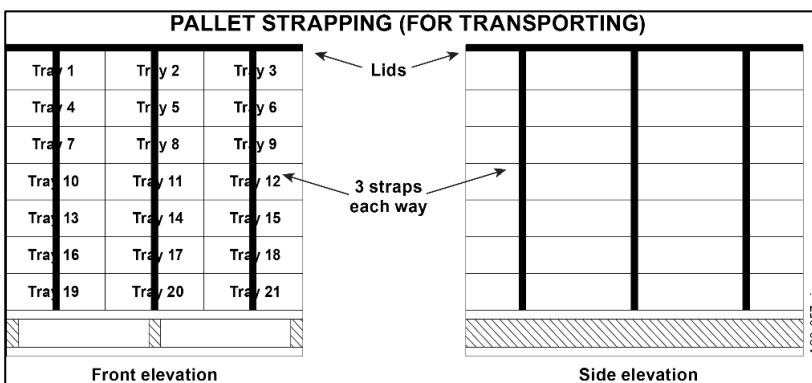

Figure 5 Pallet strapping for transport
- Pallets must be secured with strapping 3 straps each side (**Figure 5**).